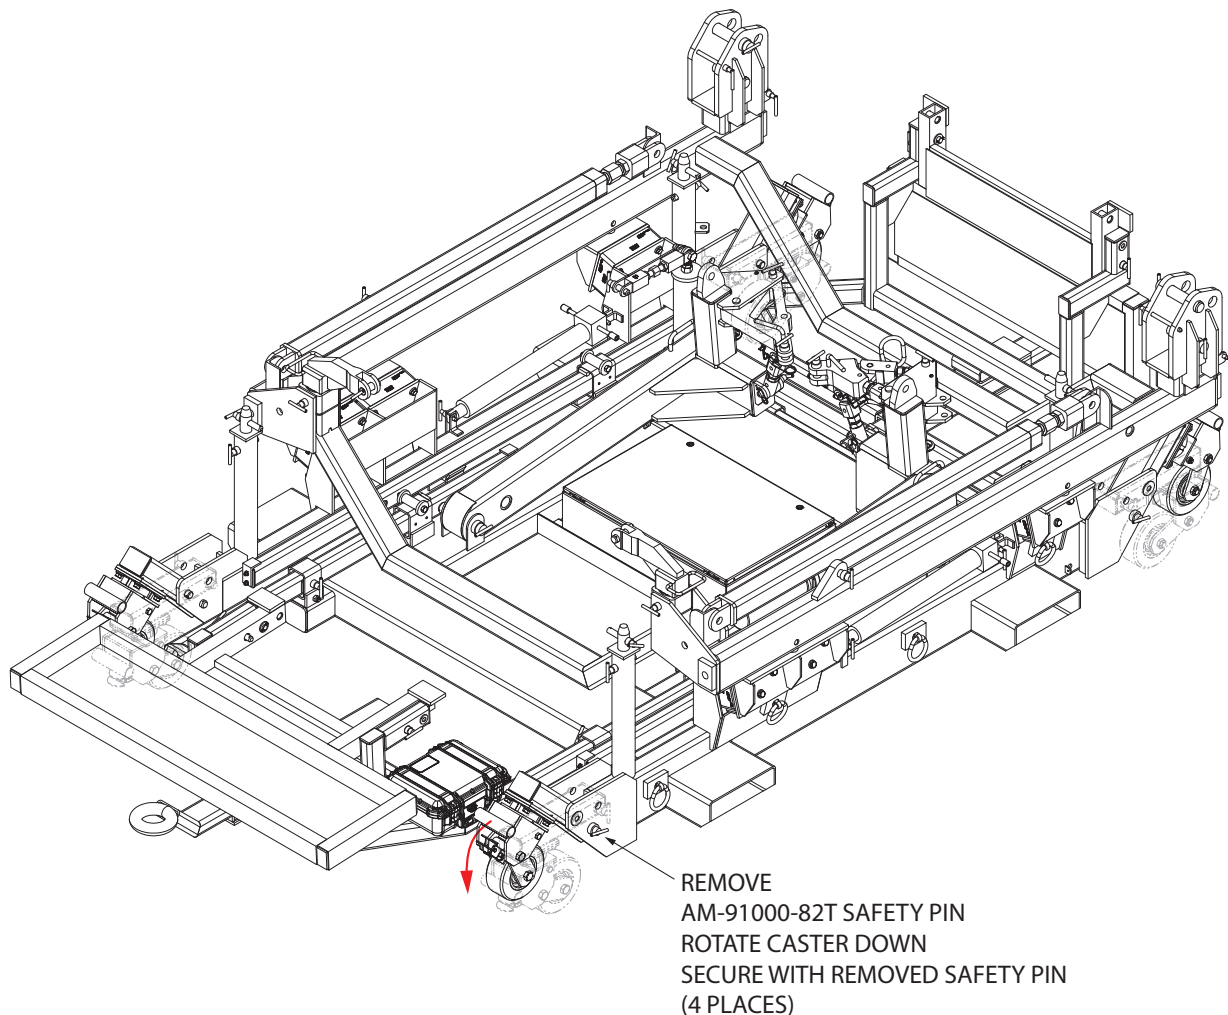

Figure 5.1-1
5.1 Stand Preparation For Engine Installation (Figures 5.1-1 through 5.1-5)
- 3) Deploy the four (4) casters by removing four (4) AM-91000-82T safety pins. Secure with the same hardware. (Illustration Figure 5.1-1).